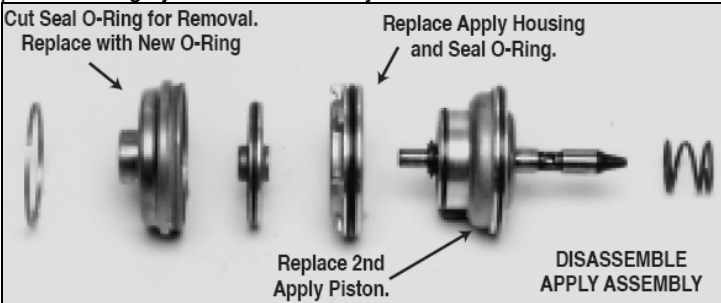

Figure 9
Step 18 Disassemble the servo assembly (**See Figure 9**). Clean all parts thoroughly before reassembly.
Step 19 Discard O.E.M. parts and replace with TCI® parts supplied with kit (**See Figure 9 for detail**). Assemble and reinstall into transmission. **NOTE:** make sure assembly is totally correct before reinstalling in case. Once the servo housing is in place, the servo housing seal O-ring will have to be cut for removal of assembly. **Step 20** Pour five quarts of automatic transmission fluid into the transmission. Start engine and check transmission fluid. Add additional fluid until fluid reaches full level. **Do Not Overfill Transmission.**